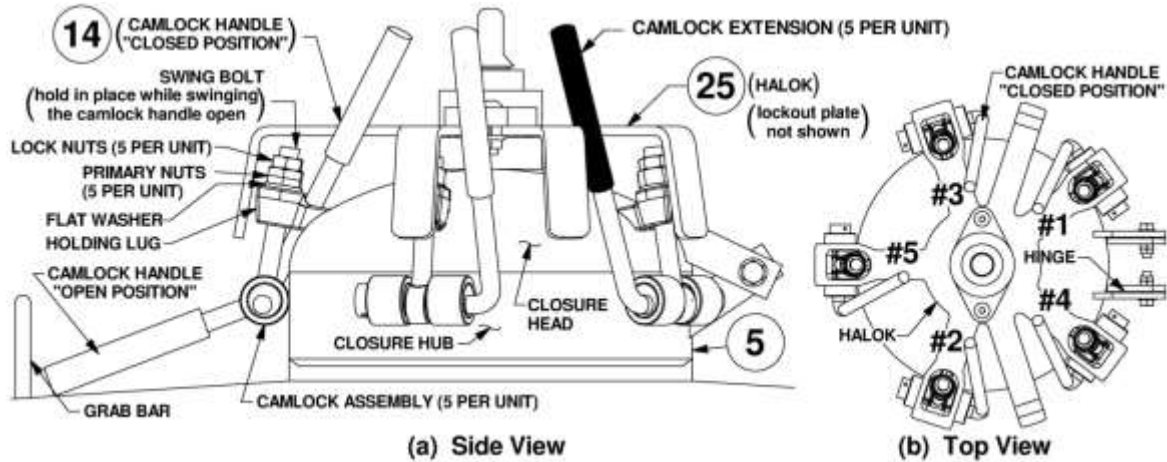

Figure 8.1 – Closure Assembly
Clean debris off all components. Replace all missing and defective components. Any camlock, swing bolt, nut, or hinge that show signs of damage, corrosion, wear, or does not swing freely must be repaired or replaced prior to re-pressurizing the blast vessel. The camlock handles must be installed into the cam lugs as shown in Figure 8.1(b) so there is no interference with closure head handle or hinges, and to ensure proper operation of the closure Halok (#25). The torque on the camlock assembly nuts must be properly adjusted. See Section 8.5 for camlock adjustment.
- Following the numbered sequence shown in Figure 8.1 tighten each bolt in three steps.